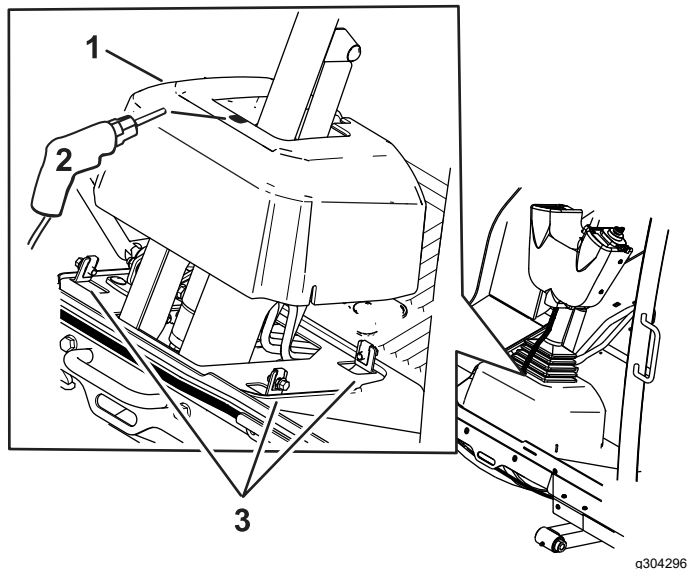

Figure 8
8. Loosen the bolts around the steering-column base (Figure 8).
9. Raise the base up and drill a 22 mm (7/8 inch) hole as shown in Figure 8.